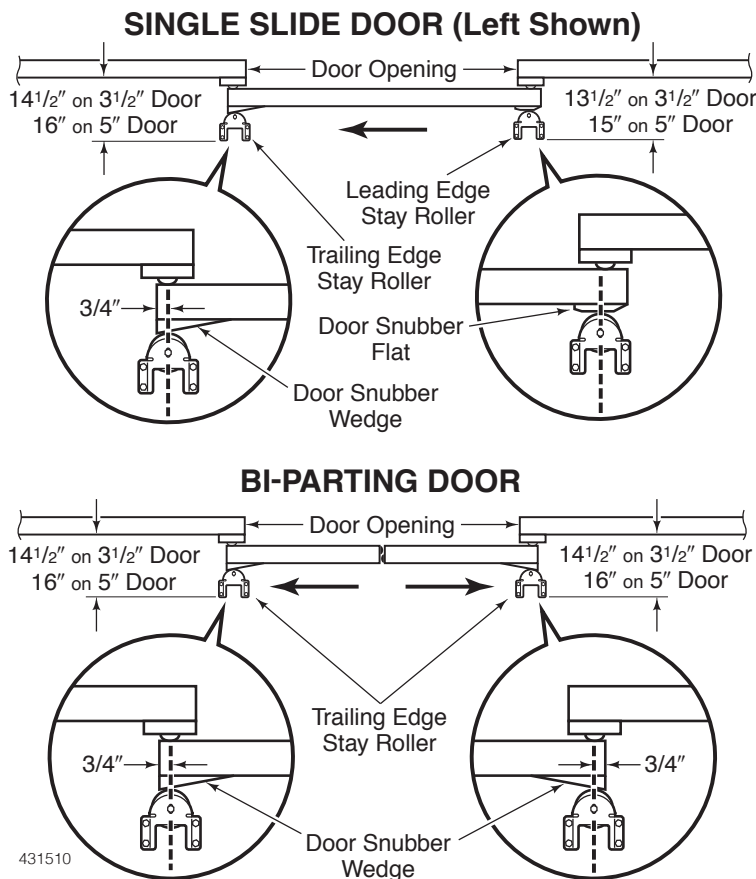

Figure 11
3. Be sure each Stay Roller Lock Nut is centered in the adjustment slot. Note the distance from the wall for *your* door size and type. See Figure 11. With Bi-Parting door(s) fully closed, position the center of the Trailing Edge Stay Roller $3/4"$ in from the end of the Door Snubber Wedge. For Single Slide Doors, center the Leading Edge Stay Roller on the flat spot on the Door Snubber.